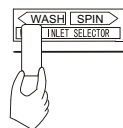

Figure 1
- (1) Set the water-filling selector at the "WASH" side. (Figure 1)
- (2) Set the water level adjusting lever to needed line.